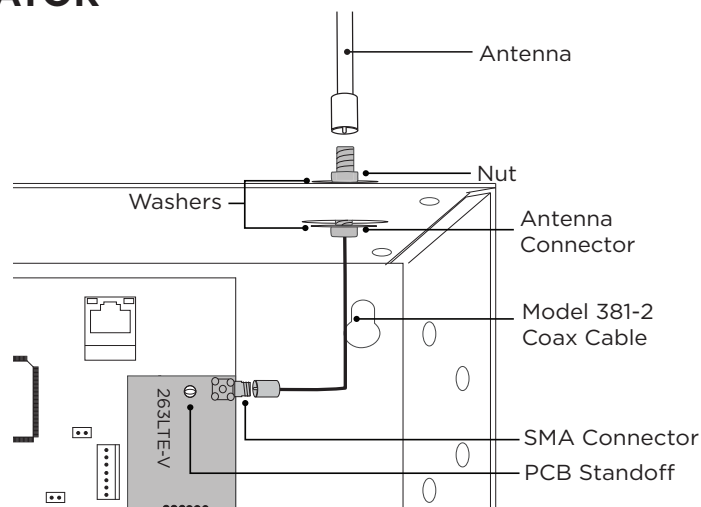

Figure 6: 263LTE-V Installation
4. Press the 263LTE-V card 12 pin connector onto the CELL MODULE connector on the panel while applying even pressure to both sides of the board to fully seat the module. See Figure 6.
6. Attach the opposite end of the 381-2 Coax to the SMA connector on the 263LTE-V. Carefully coil the remaining coax and lightly secure. See Figure 6.